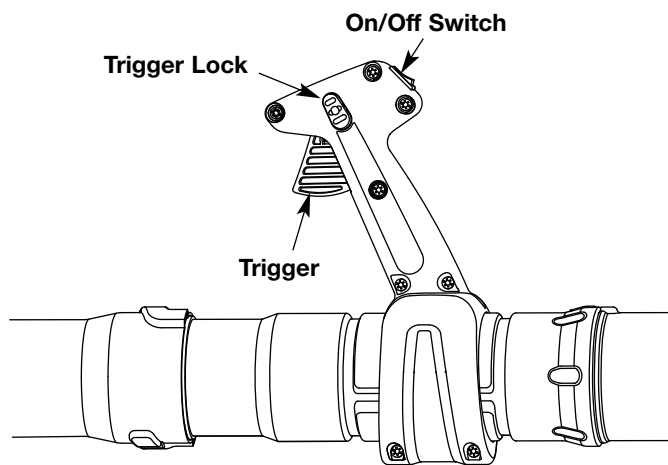

Fig. 15
NOTE: The unit should be started in idle. Do not squeeze the trigger while starting (Fig. 15).
The unit should be started in idle. Do not squeeze the trigger while starting (Fig. 15).
2. Press the On/Off Stop Control switch in the OFF (O) position and hold until the engine comes to a complete stop (Fig. 15).
- Use the trigger lock (Fig. 15) to keep the trigger depressed while operating to make continuous operation easier.